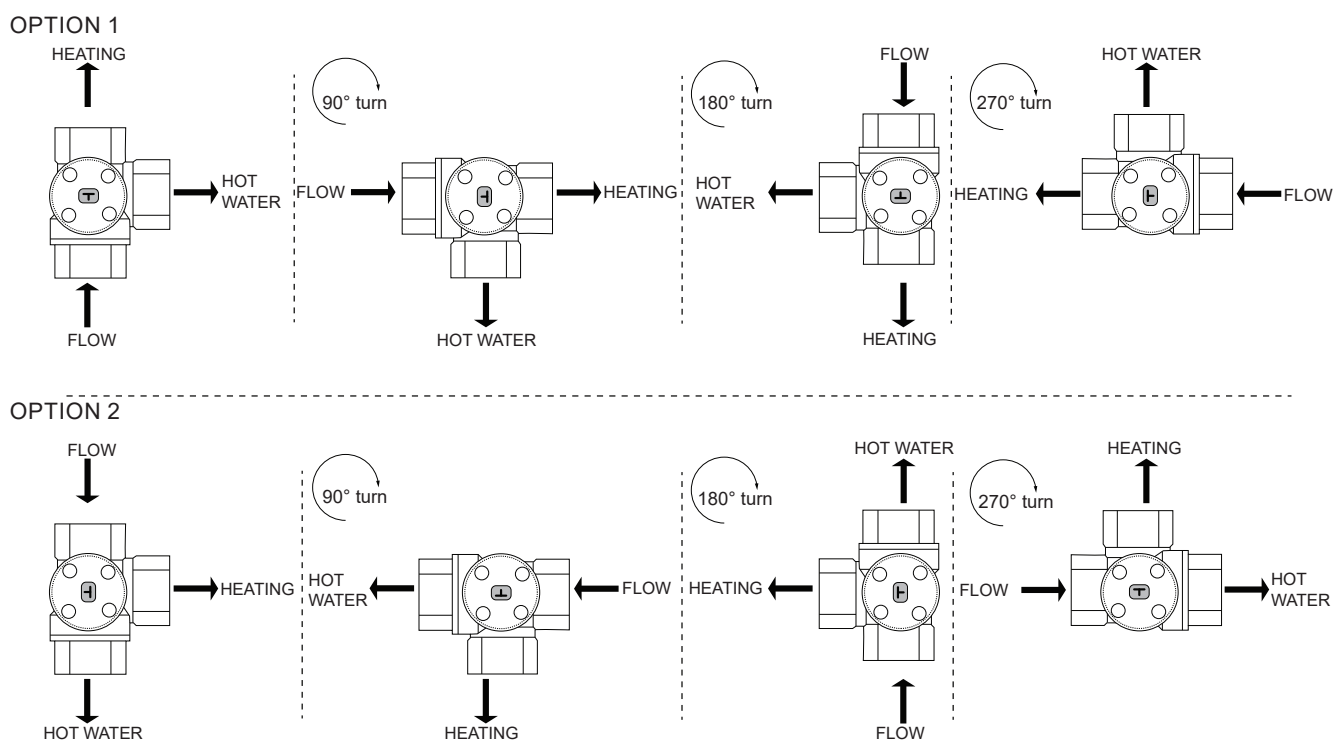

Figure B-1: Valve positions
**OPTION 1** The flow from the heat pump passes straight through the valve for space heating and is diverted at 90° for DHW. The valve can be installed in 4 positions when turned in 90° increments as shown in Figure B-1 Option 1.
**OPTION 2** The flow from the heat pump passes straight through the valve for DHW and is diverted at 90° for space heating. The valve can be installed in 4 positions when turned in 90° increments as shown in Figure B-1 Option 2.